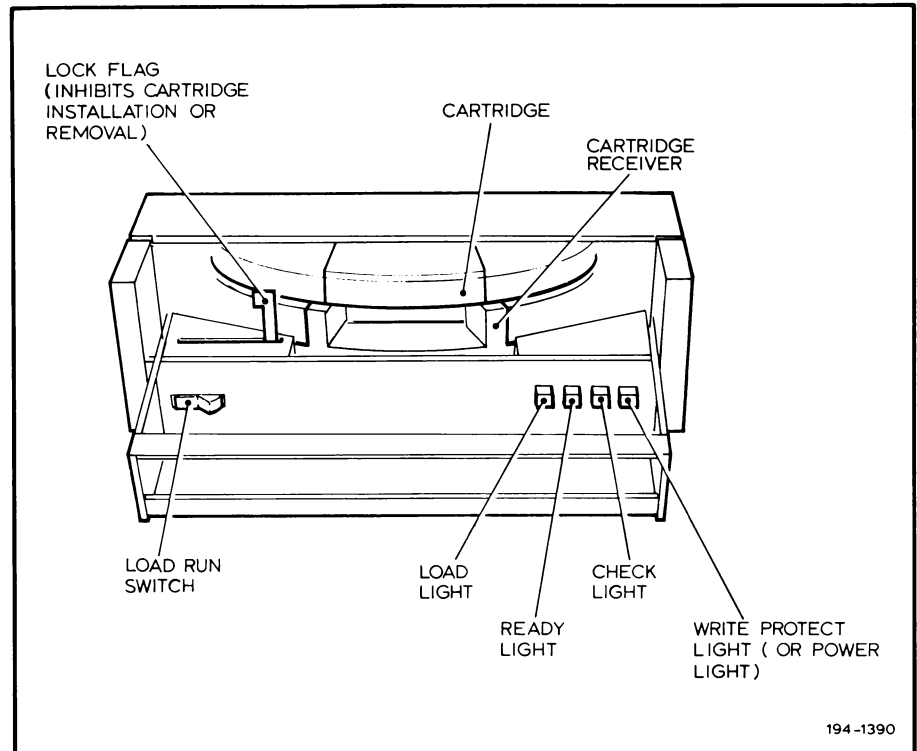

FIGURE 3.1 CONTROLS AND INDICATORS
The series 30, has one control switch and four indicator lights. The mechanical interlock flag, shown in figure 3.1, is visible and the door is locked shut whenever the power to the drive is off or when the disc is rotating.
- (b) Open the door to gain access to the cartridge receiver. With all conditions normal, the lock flag, shown in figure 3.1, is down. When the door is opened, the cartridge receiver moves up and comes to rest in a slightly slanted position, ready to receive a cartridge